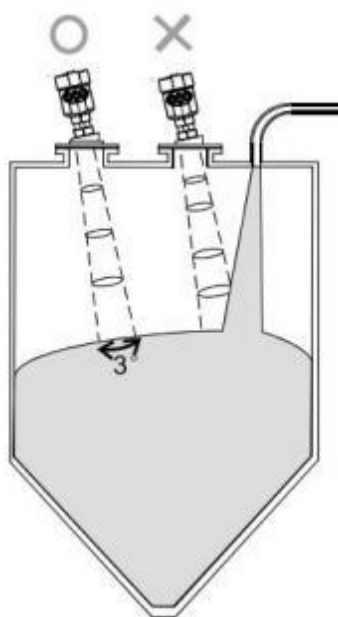

Figure 4-2 Antenna beam avoids the feed port
- The instrument installation should ensure that the antenna beam avoids the feed port, as shown in Figure 4-2.